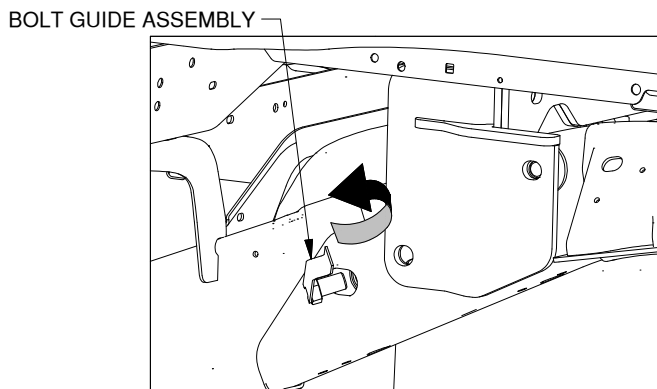

Figure H3: Looking at driver side frame.
3. **Place bolt guide assembly.** Feed the 5/8" bolt guide assembly into the large frame hole, as shown in Figure H3, so that the bolt sticks out of the frame and through the lower hole in the side plate. Secure this connection with a serrated flange nut.